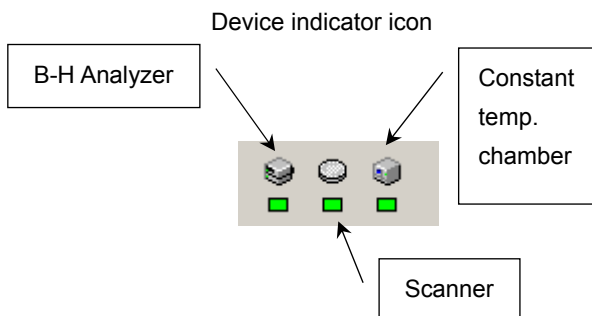

Figure 3-66 Device indicator
- h. **Device indicator:** Displays the status of the device connected through the GPIB interface. For statuses, see Figure 3-66 and Table 3-16. Moreover, the connection of SY-956 and SY-960 is not displayed.